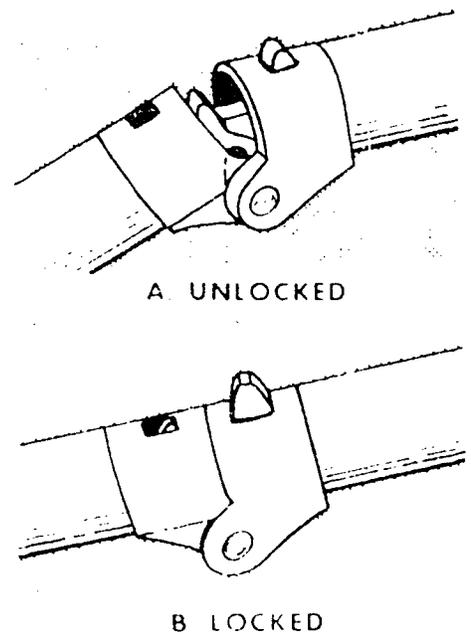

FIGURE 17. Make sure latches are locked
c. Make sure that both V-braces are locked. Figure 17 shows how the spring-actuated latches look when they are unlocked and when they are locked. Do not use the scaffold if any of these latches are not operating properly.